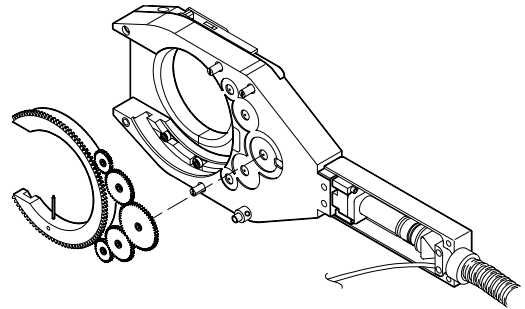

Figure 18 Removing the Rotor
2. Remove the rotor from the gear side of the housing assembly. See Figure 18.